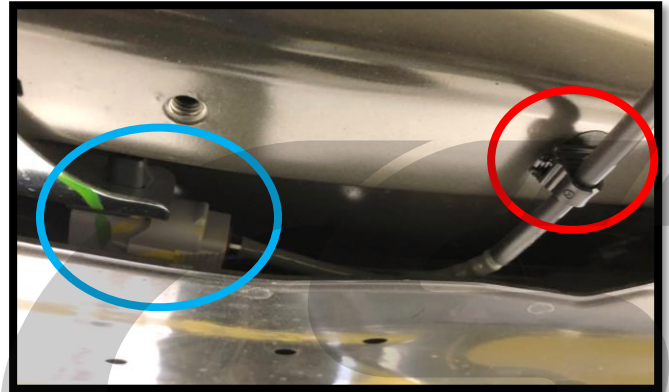

Figure 4a
a) Trace the oxygen sensor wiring to the left side frame rail and use a flathead screwdriver to remove the black clip from the frame rail. Clip circled in red in **Figure 4a**. Take care to not to break the clip during removal.
b) Unplug the oxygen sensor electrical connector. Connector circled in blue in **Figure 4a**.
a) Plug in your oxygen sensor & reattach the plastic clip that was removed in step 4a. **Figure 4a** shows the plug and clip properly installed.